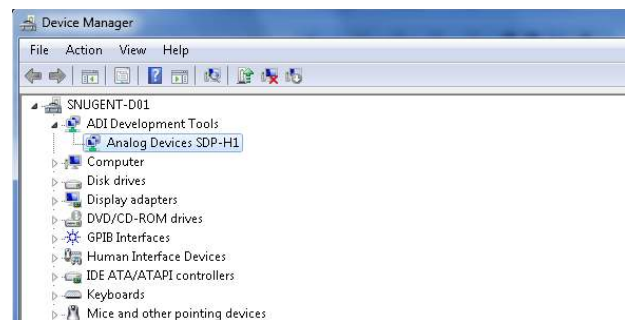

Figure 12. Device Manager:
- b. Under **ADI Development Tools**, **Analog Devices SDP-H1** should appear (see Figure 12), indicating that the **EVAL-SDP-CH1Z** driver software is installed and that the board is connected to the PC correctly.